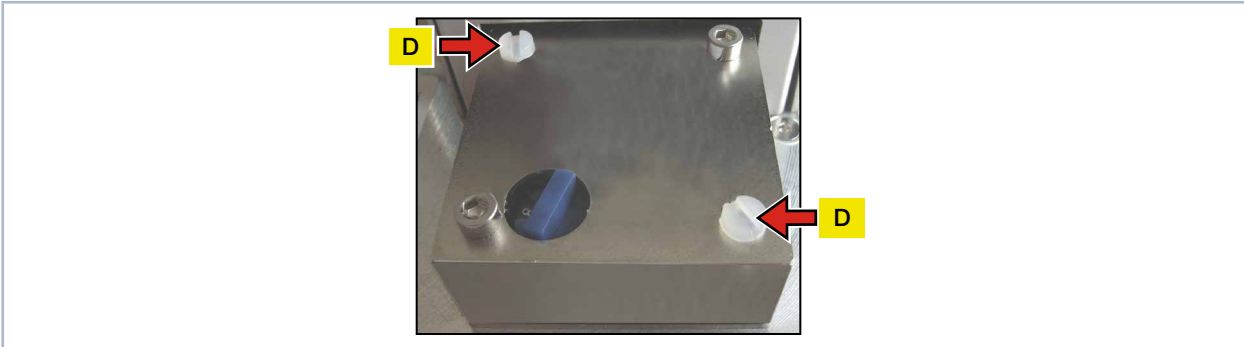

Fig. 16.3: Remove the plastic screws from the detector
1. Remove the plastic screws (D) from the detector (see Fig. 16.3 on page 66).